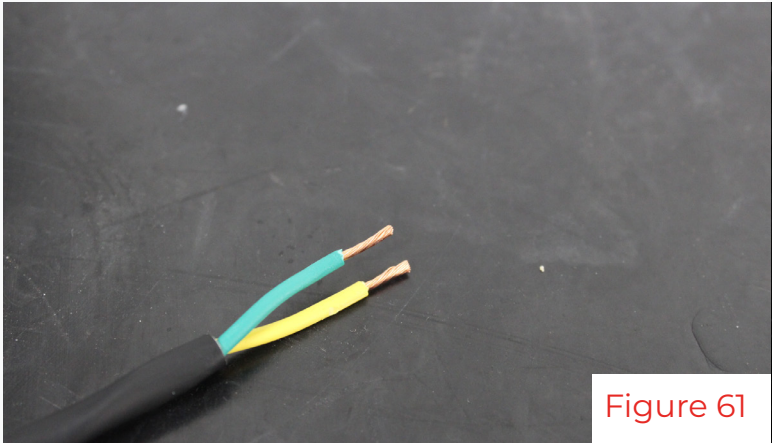

Figure 61
30. Prepare the CAN-BUS wire by carefully stripping back the sleeving without cutting into the individual wire insulation(fig 61). Use two butt connectors to crimp the yellow wire to the white/red wire, and the green wire to the white/black wire of the Zeitronix harness(fig 62). Use a heat gun or similar to shrink the butt connection to make a waterproof seal(fig 63).